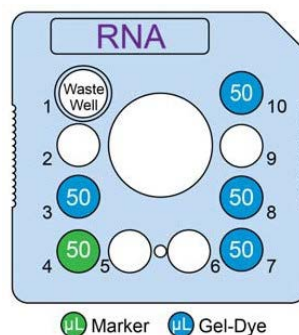

Figure 1. Low-throughput (LT) chip preparation
3. Using a Reverse Pipetting Technique, add Gel-Dye solution to chip wells 3, 7, 8, and 10 as shown in **Figure 1 (LT)** or **Figure 2 (HT)**.
4. Add **50 µL (LT)** or **100 µL (HT)** RNA Marker  to chip well 4 as shown in **Figure 1 (LT)** or **Figure 2 (HT)**.